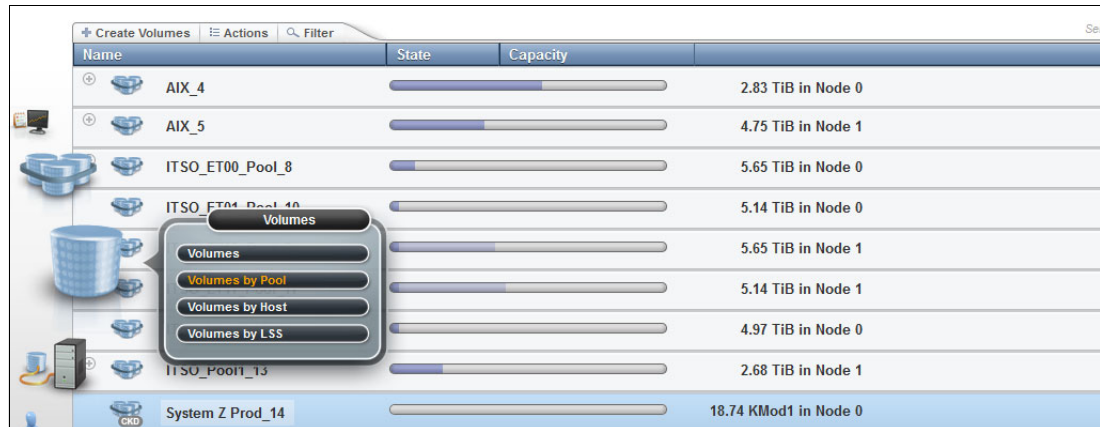

Figure 11-94 Select pools to add CKD volumes
1. Select the **Volumes** icon from the system page, then select **Volumes** or **Volumes by Pool** from the menu, as shown in Figure 11-94.